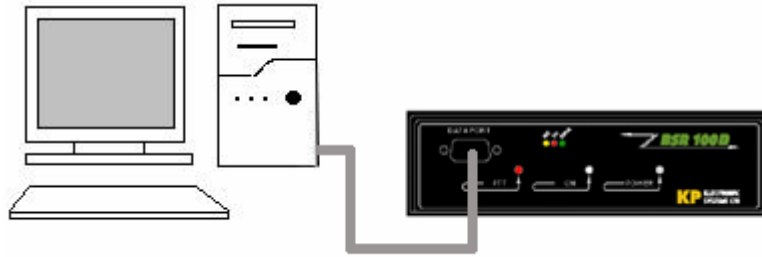

Figure 7: PC/ Modem Module DTE Connection
1. Connect the cable labeled *PC DATA* to the 15-pin J4 DTE connector on the front panel of the BSR100D's modem module (see *Figure 7*).